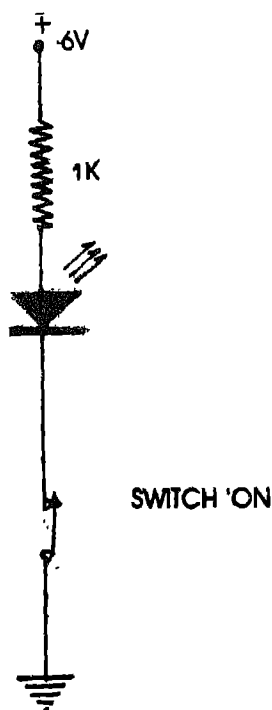

Fig. 9.4
1. The transistor works like a switch, when it is used in saturation and cut-off states. The flow of heavy collector current makes the LED glow. Diagrammatically this "ON" state is shown in Fig. 9.4.